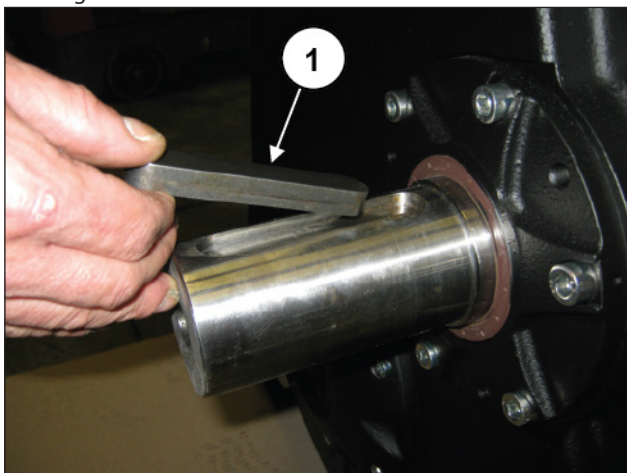

Fig. 144
Apply the tab to the PTO shaft (pos. ①, Fig. 144). Tighten the screws with a torque wrench as described in heading 3.